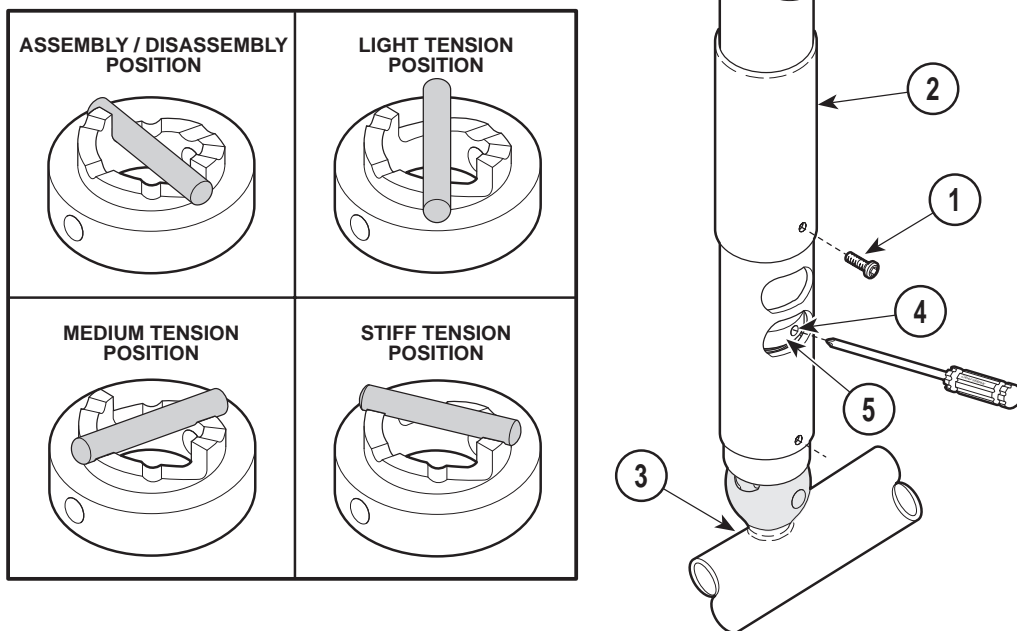

FIGURE 6. BALL PIVOT TENSION ADJUSTMENT
1. Remove screw (1, Figure 6) and slide ball pivot sleeve (2) up out of way.
2. Rotate cross tube (3) until adjustment hole (4) appears in the adjustment window opening.
There are three settings which the ball pivot cam (5) can be set for: light tension, medium tension, or stiff tension (see Figure 6). These settings may be changed according to the operator's preference.
3. Insert screwdriver, into adjustment hole (4). Then, using the screwdriver, rotate ball pivot cam (5) to the desired tension setting.
4. Remove the screwdriver and move the cross tube (3) about the ball pivot joint in a circular motion and up and down motion to ensure the setting is the one desired. Move the cross tube (3) to a horizontal position and release it. The cross tube should not drift in any direction. If it does, a higher tension setting is required or the cross tube counterbalance needs adjusted (see counterbalance adjustment in Installation manual or Service and Parts Manual). Repeat steps 3 and 4 until the desired tension adjustment is achieved with no drifting of the cross tube.
5. Slide ball pivot sleeve (2) down into position and secure with screw (1).